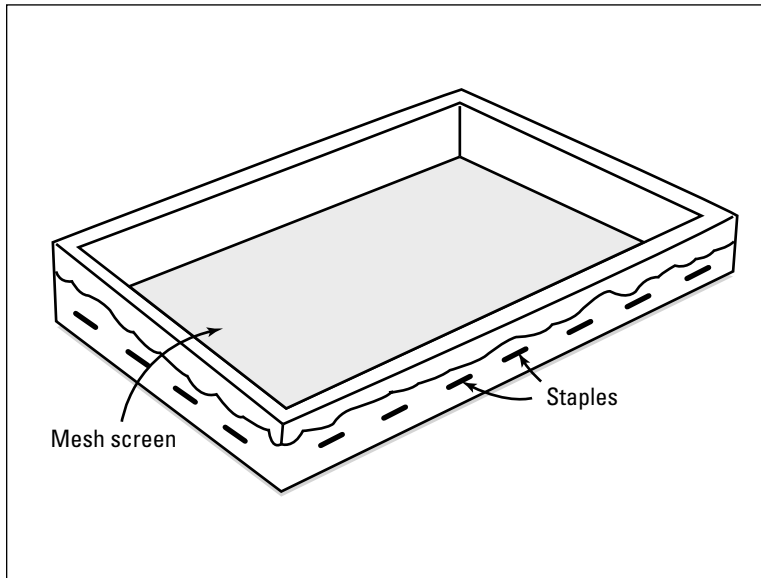

Figure 2-3:
2. Staple the mesh screen to the frame (see Figure 2-3).